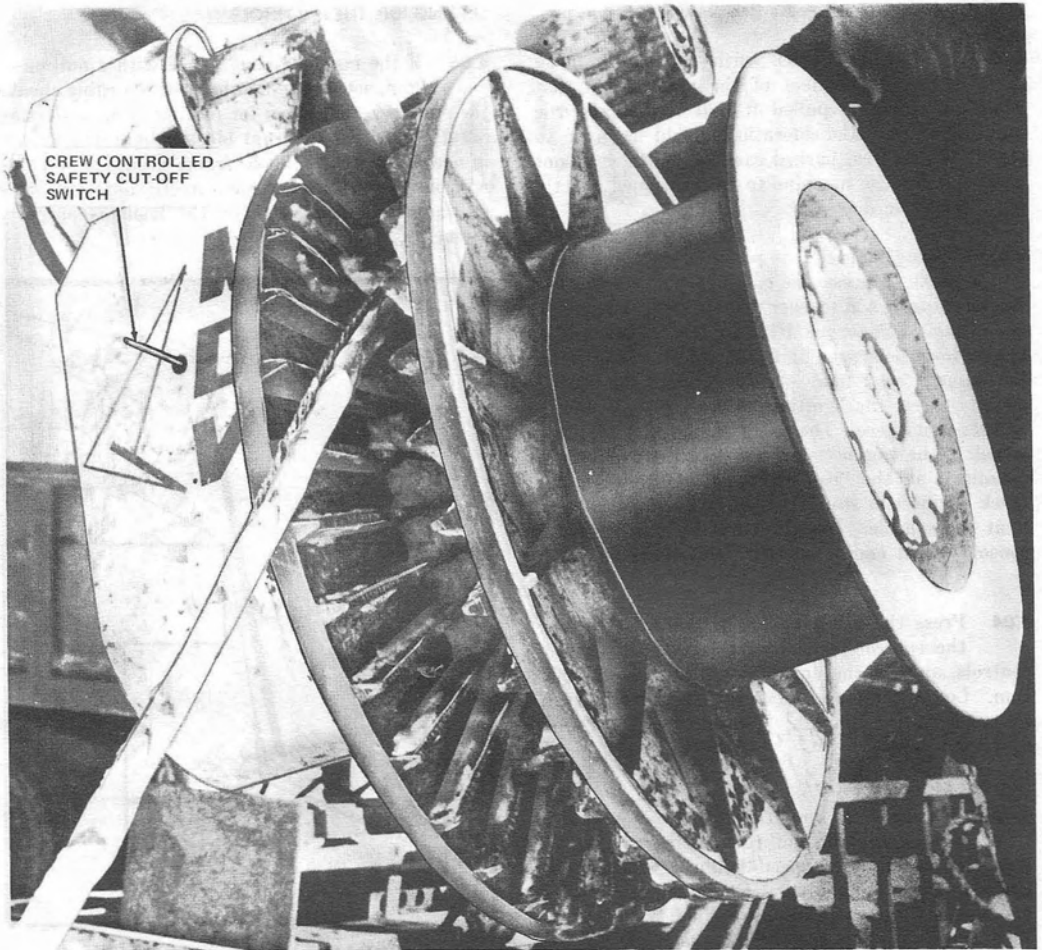

Fig. 3—Safety Cutoff Switch
**2.07** A crew controlled **safety cutoff switch** (Fig. 3) is located on the rear of the drive head. The spring wire rod, that extends rearward several inches, will upon the slightest touch activate the cutoff switch and immediately stop the power head and shear. The safety cutoff switch can be operated by a crew member, when the pull is being started and the machine is being loaded, for immediate response to any potential problem.